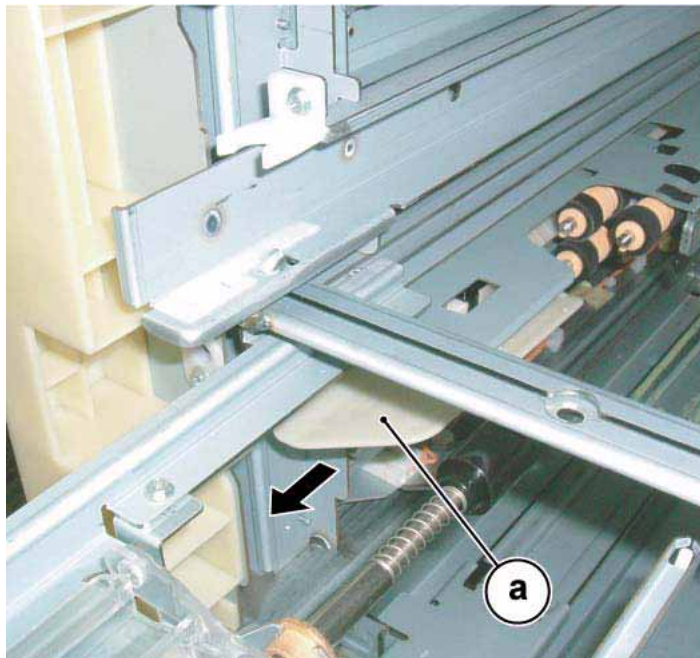

Figure 1 Moving the Chute
3. Move the Chute to the front. Figure 1